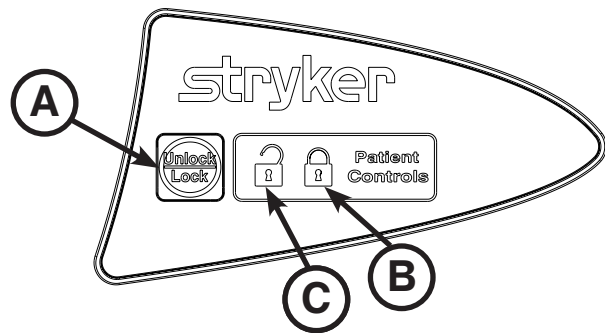

Figure 16: Patient Control Lockout
To lock the siderail patient controls, press the **Lock/Unlock (A)** button as shown in Figure 16. The lock icon (B) is illuminated amber while the patient controls are locked. The foot end nursing controls are not locked.
To unlock the siderail patient controls, press the **Lock/Unlock (A)** button as shown in Figure 16. The unlock icon (C) is illuminated green when the patient controls are unlocked.